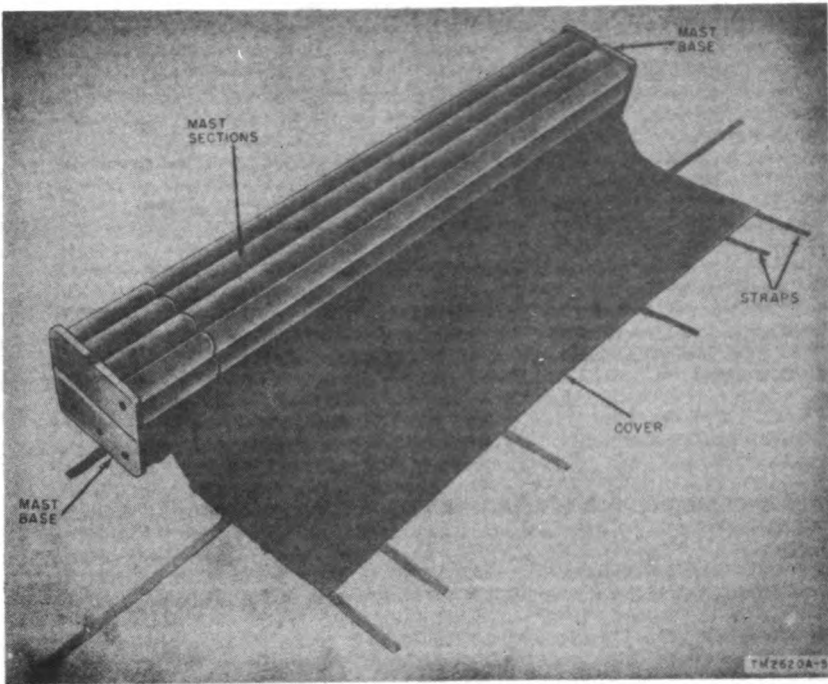

Figure 5. Antenna Support AB-38B/CR, cover open.
a. If the equipment has been boxed for export shipment, cut the metal straps around the box, remove the nails from the box cover with a nail puller, remove the cover, tear open the paper barrier, and lift out the equipment. Set the equipment at the selected site, unfasten the straps, and open the canvas cover (fig. 5). Note carefully how the various components are packed, so that they may be repacked in a similar manner.